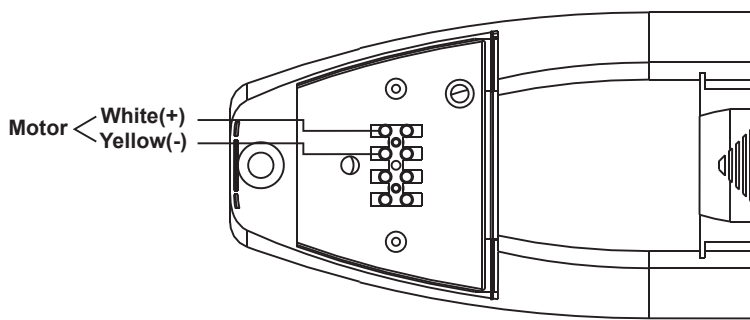

FIGURE 27
- 16 Connect the motor power cable as shown in Figure 27